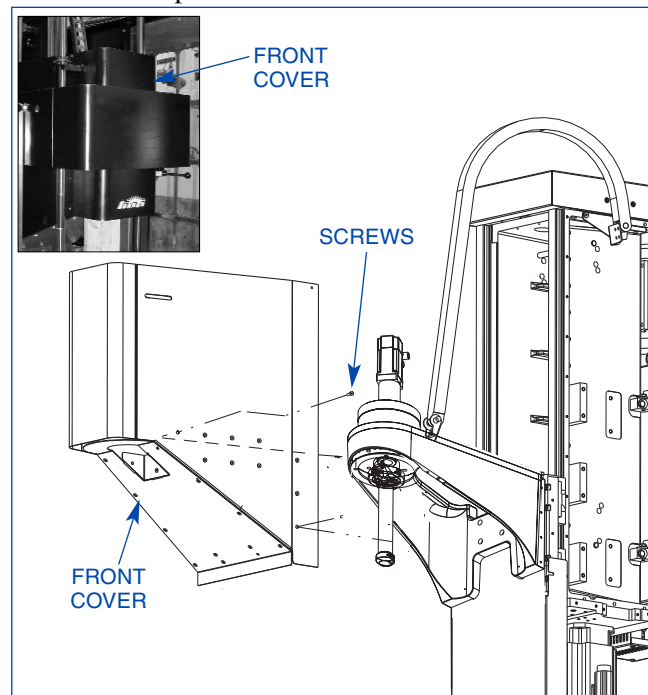

FIGURE 4-6, Front Cover
4. Remove Front Cover (*see Figure 4-6*).